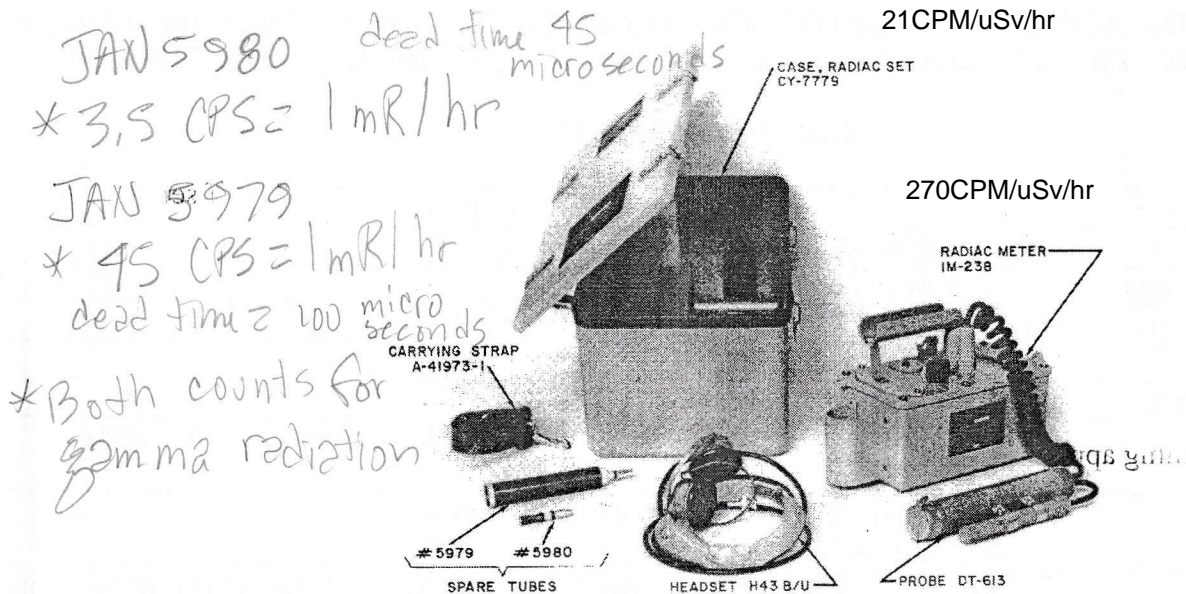

Figure 1-1 Relationship of units
- 1-1. GENERAL DESCRIPTION. The HDER-G01 is a portable, battery operated radiation detector and indicator (figure 1-1) capable of detecting and measuring up to 500mR/hr of gamma radiation and can detect the presence of beta radiation. The HDER-G01 is equipped with a carrying handle and detachable shoulder harness. The G-M Probe, attached to the HDER-G01 by a coiled cable, is a two-compartment probe which is stowed in the mounting well in the case. HDER-G01 includes a carrying case, dry-cell batteries, headset, harness, spare tubes, and one copy of this technical manual.
A. The Geiger Mueller (GM) Probe. The HDER-G01 detector is a probe consisting of a type JAN-5979 Geiger-Mueller Tube and a type JAN-5980 Geiger Mueller tube, each enclosed in its own cylindrical metal housing (figure 1-1). The two housings are clamped together into one
D. SPARE PARTS. The field spares, consisting of one each of the G-M tubes are carried in the spare parts compartments (figure 1-1) of the carrying case.